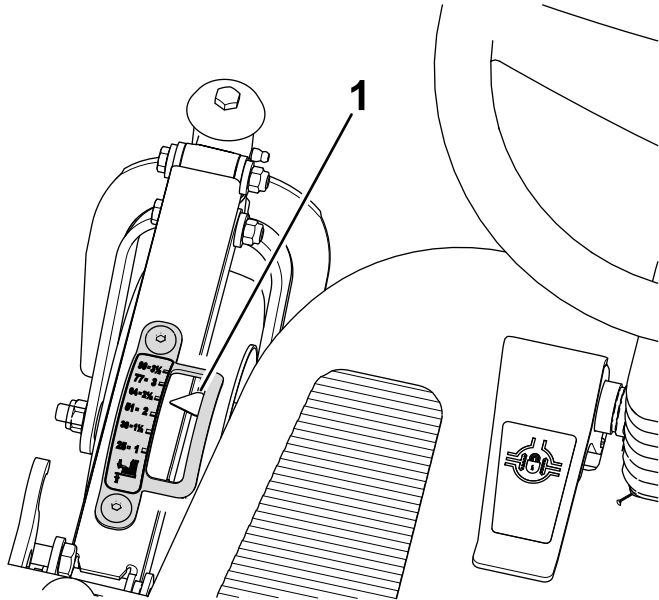
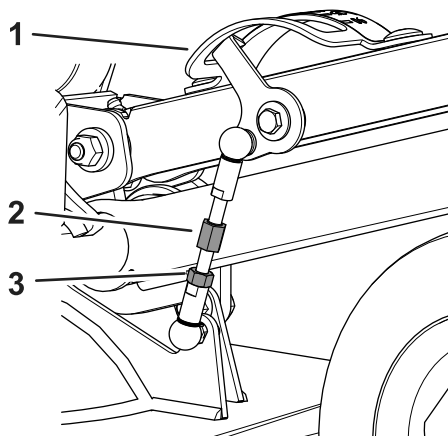

Figure 104
Figure 105
2. Sit in the operator's seat and look at the pointer of the height-of-cut indicator (Figure 104).
- A. Loosen the jam nut that secures the height-of-cut link (Figure 105).
- B. Rotate the link until the pointer of the height-of-cut indicator is aligned to 64 mm (2-1/2 inch) mark when viewed from the operator's seat (Figure 104 and Figure 105).
- C. Tighten the jam nut (Figure 105).